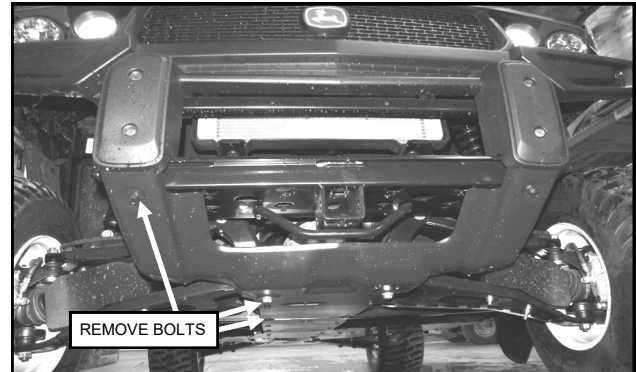

Fig. 1.2 (Remove Front Skid Plate)
- 1.2 Remove the (2) existing bolts that attach the Front Skid Plate to the Bumper and the (4) bolts that attach the Front Skid Plate to the frame. See Fig. 1.2. Discard the fasteners.